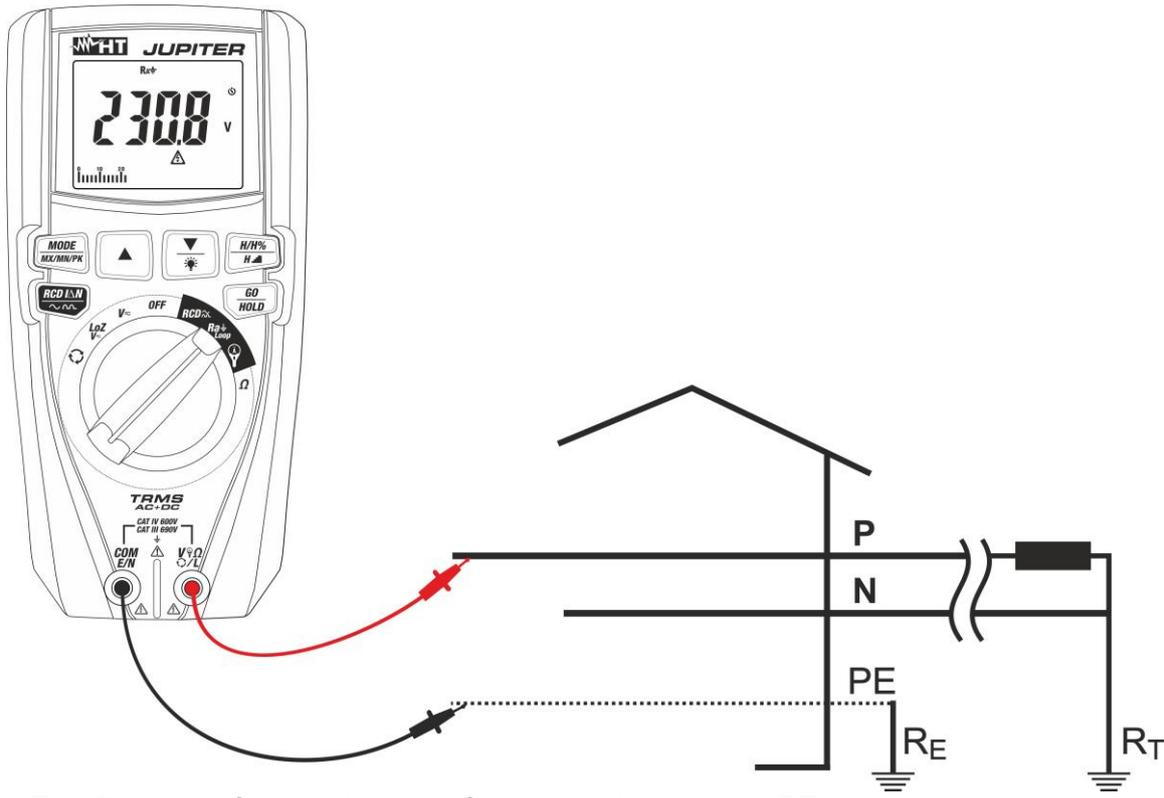

Fig. 24: Use of the instrument for measuring Loop L-PE impedance with leads
6. **For Loop L-PE measurements**, in case measuring leads are used, insert the red conductor into input terminal **V Ω L** and the black conductor into input terminal **COM/E/N** and connect the instrument to the system to be tested (see Fig. 24). The value of voltage Phase-Earth is shown on the display